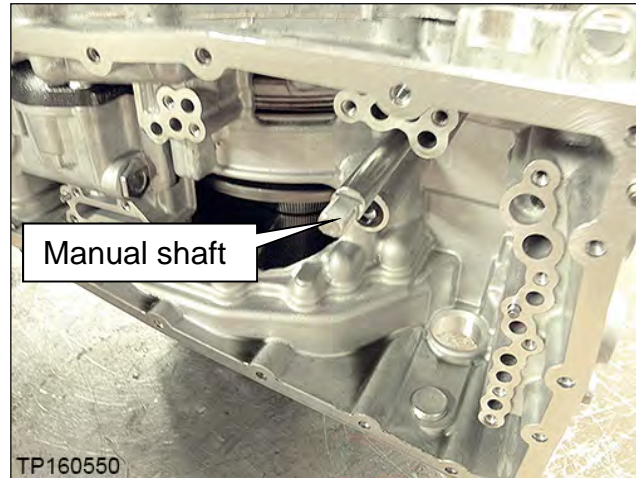

Figure 71
- **Do not hit the manual shaft (Figure 71) while rotating the CVT; the manual shaft is longer than the oil pan mating surface. Use plastic / wooden blocks to support as needed.**